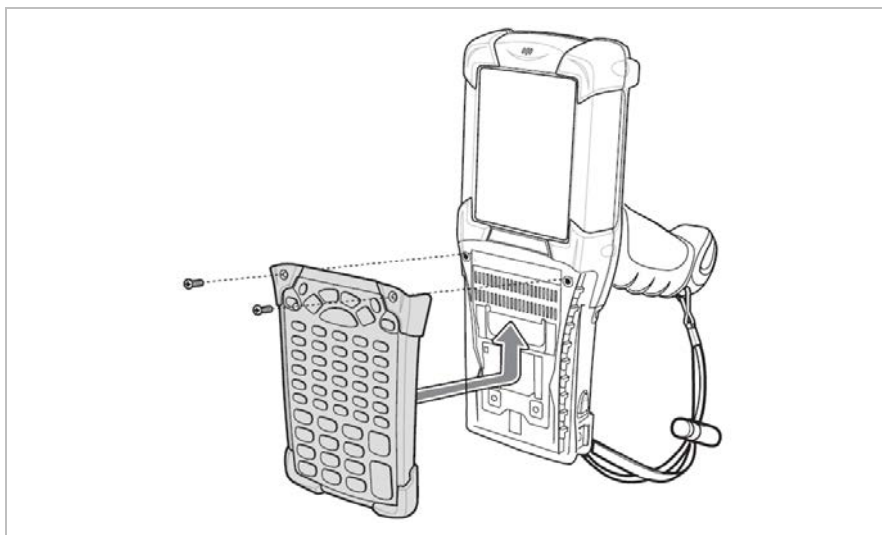

Figure 4-4: Installing the keypad
- (4) Pull the keypad downwards in the direction of the arrow and then forwards to take it out of the MC 9190^{ex}-NI.
- (5) Check that the contacts and seals are clean and in good condition.
- (6) Snap on the keypad in the direction of the arrow (see *Figure 4-4: Installing the keypad*) and push it upwards until the boreholes for the screws are over the threaded sleeves.
- (8) Push the keypad in the direction of the arrow (see *Figure 4-4: Installing the keypad*) until the boreholes on the keypad are positioned over the threaded holes on the enclosure.